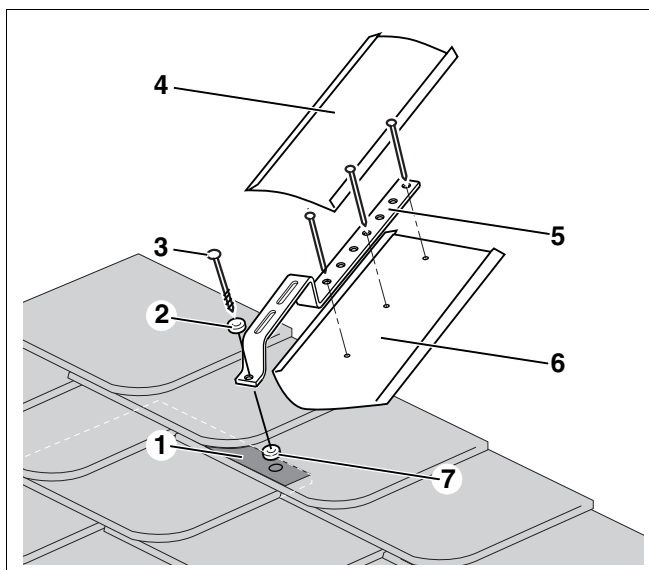

Fig. 31 Installing special roof hooks on a multiple ridge
Here is an example of the installation of the special roof hooks and the watertight seal with on-site flashing (Fig. 31, **Item 4** and **6**) with a slate/shingle ridge.
- ▶ Install the special roof hook (Fig. 31, **Item 5**) and the seal (Fig. 31, **Item 2** and **7**) on the slate/shingle ridge with the included screw (Fig. 31, **Item 3**).
- ▶ To ensure that the installation is watertight, flashing must be installed or positioned on the building above and below the special roof hooks (Fig. 31, **Item 4** and **6**).
The special roof hooks must be positioned on the front of a multiple ridge (Fig. 31, **Item 1**).